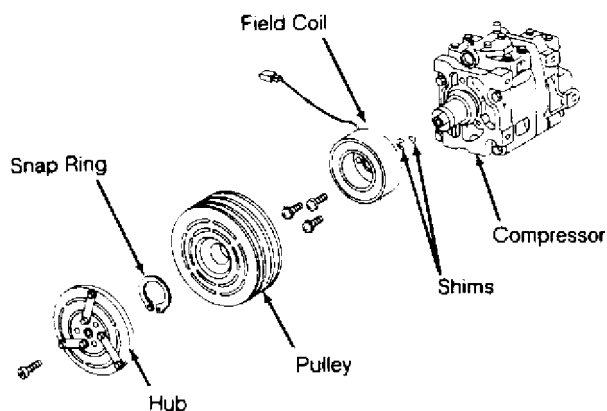

Fig. 12: Exploded View of Rotary Vane Compressor (Matsushita)
2) Remove snap ring. Using a puller, remove pulley. Disconnect electrical leads from field coil. Remove 3 field coil mounting bolts. Remove field coil. See Fig. 12. To install, reverse removal procedure.
2) Remove shims from pressure plate. Remove snap ring from compressor. Tap rotor off shaft with plastic hammer. Disconnect stator wire from housing. Remove snap ring from inside stator. Remove stator. See Fig. 12.